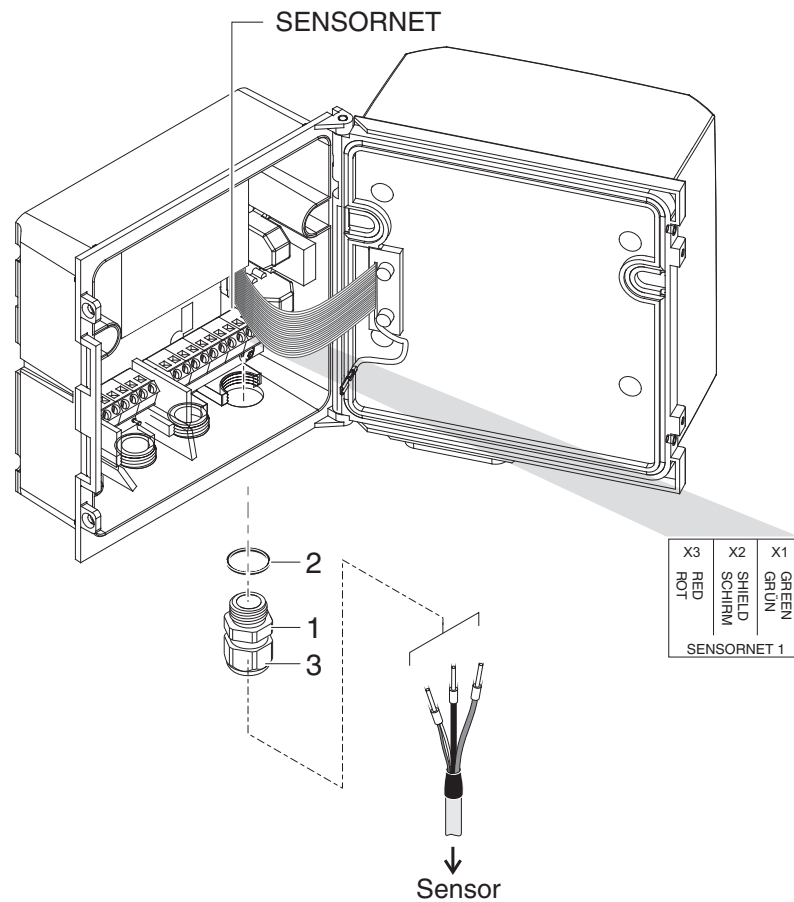

figure 3-16 Connecting the cable (example DIQ/S 281CR2)
- 2 Screw the cable gland (pos. 1 in figure 3-16) with the sealing (pos. 2) into the housing at the mounting position for the SENSORNET connection (see label on the bottom of the housing)
- 3 Loosen the cap nut (pos. 3 in figure 3-16).